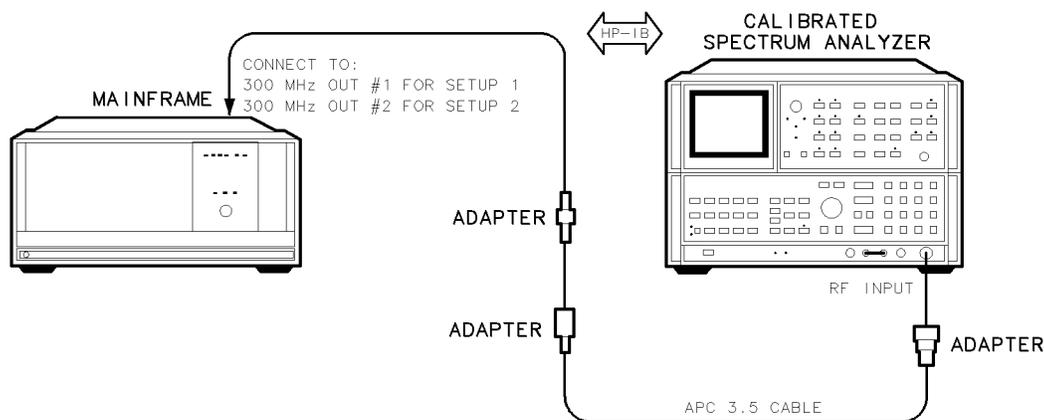

Figure 7-2. 300 MHz Reference Output Power and Harmonics Test Setup
1. Connect the HP 8566B spectrum analyzer's RF INPUT to the DUT's rear panel 300 MHz OUT #1 jack using the three adapters, as shown in Figure 7-2. The calibrated spectrum analyzer measures the output power of the fundamental and its first 10 harmonics, and compares this measurement to the test limits.
2. When the test on the 300 MHz OUT #1 jack is finished, connect the spectrum analyzer to the DUT's rear panel 300 MHz OUT #2 jack using the three adapters, as shown in Figure 7-2.